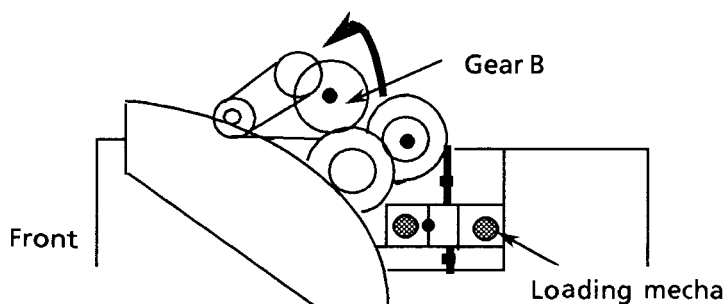

Fig 7. Elevator mecha ass'y
4. Rotate the B gear shown in Fig.7, and move the loding mecha ass'y to the top.